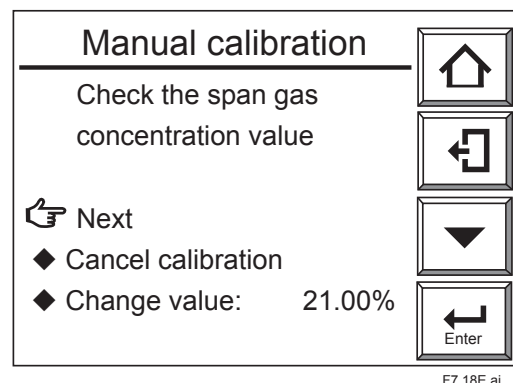

Figure 7.29 Manual Calibration
- (2) Press the [Enter] key to select "Span calibration". The Manual calibration display shown in Figure 7.29 then appears. Check that the oxygen concentration for the span gas in this display coincides with the oxygen concentration in the calibration gas actually used. If the check results are assumed to be OK, select "Next" in the Manual calibration display.